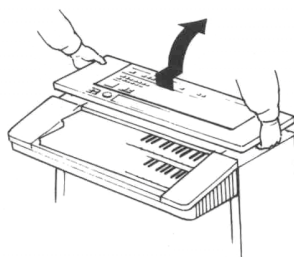
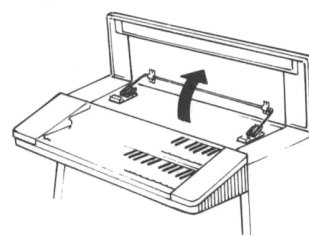

Fig. 2
Fig. 3
A plastic nut is attached to screw ① on the inside. Use the grips on either side to lift up the sub panel and slide it toward the back (Fig. 2); then raise the sub panel as shown in Fig. 3.